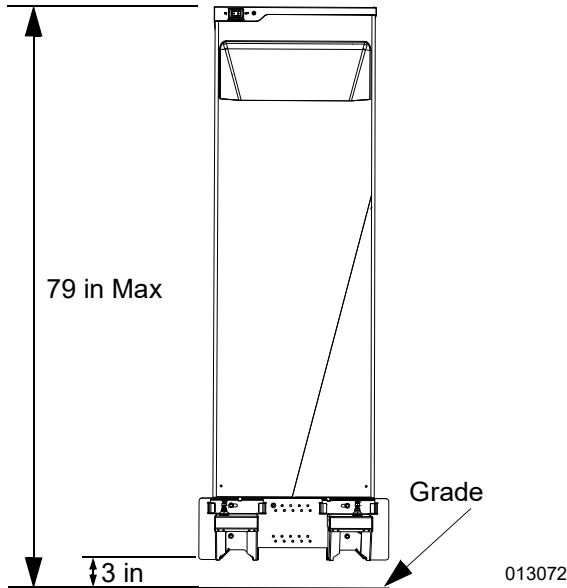

Figure 4-2. Foot Bracket Install Height
1. See Figure 4-2. Install the foot bracket bottom edge to a minimum height of 3 in (7.62 cm) and a maximum height of 6 in (15.24 cm) to keep the Battery Disconnect Switch at a maximum height of 79 in (200.66 cm) above grade.